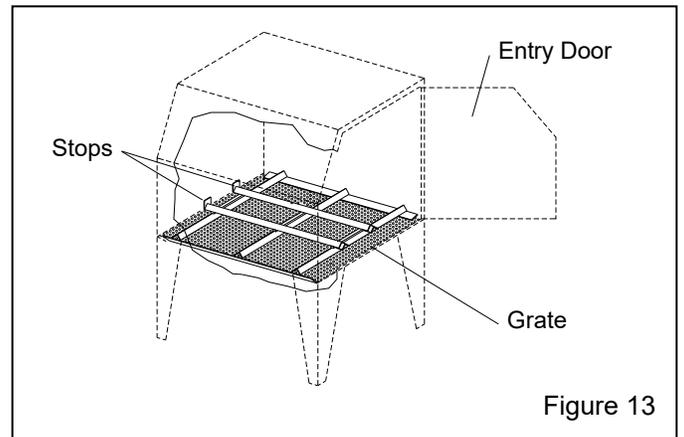

Figure 13
Installation note: The track may be placed on either side of the cabinet, allowing entry through either the right side or left side door; the right side is shown in the illustrations. When installing the inside track, place it so the stops are opposite the entry door, as shown in Figure 13.
3.4.2 Place the inside track in the cabinet over the existing grate, as shown in Figure 13.